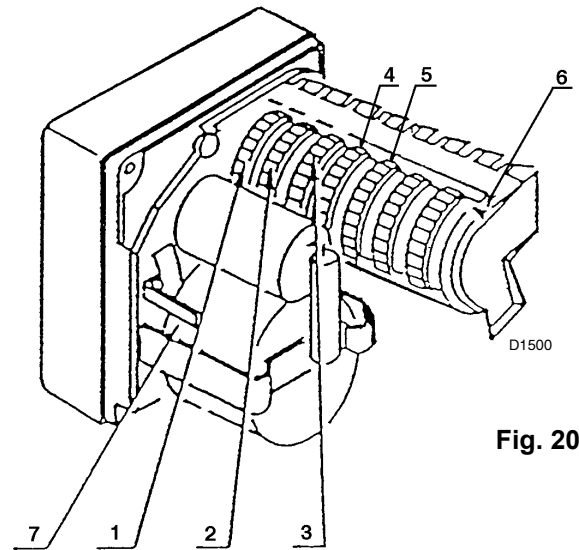

Fig. 20
- Check that the eccentricity of the oil cam is sufficient for a run of approx. 8 mm for the oil modulator shaft. Normally, with an 8 mm run for the shaft, the pressure variation required for modulating the output from minimum to maximum is obtained. To carry out this control, manually turn the cam after releasing the servomotor using the lever (7)(Fig. 20, pag. 14), so that the shaft run is not excessive or insufficient. When the control is terminated, remember to block the servomotor.